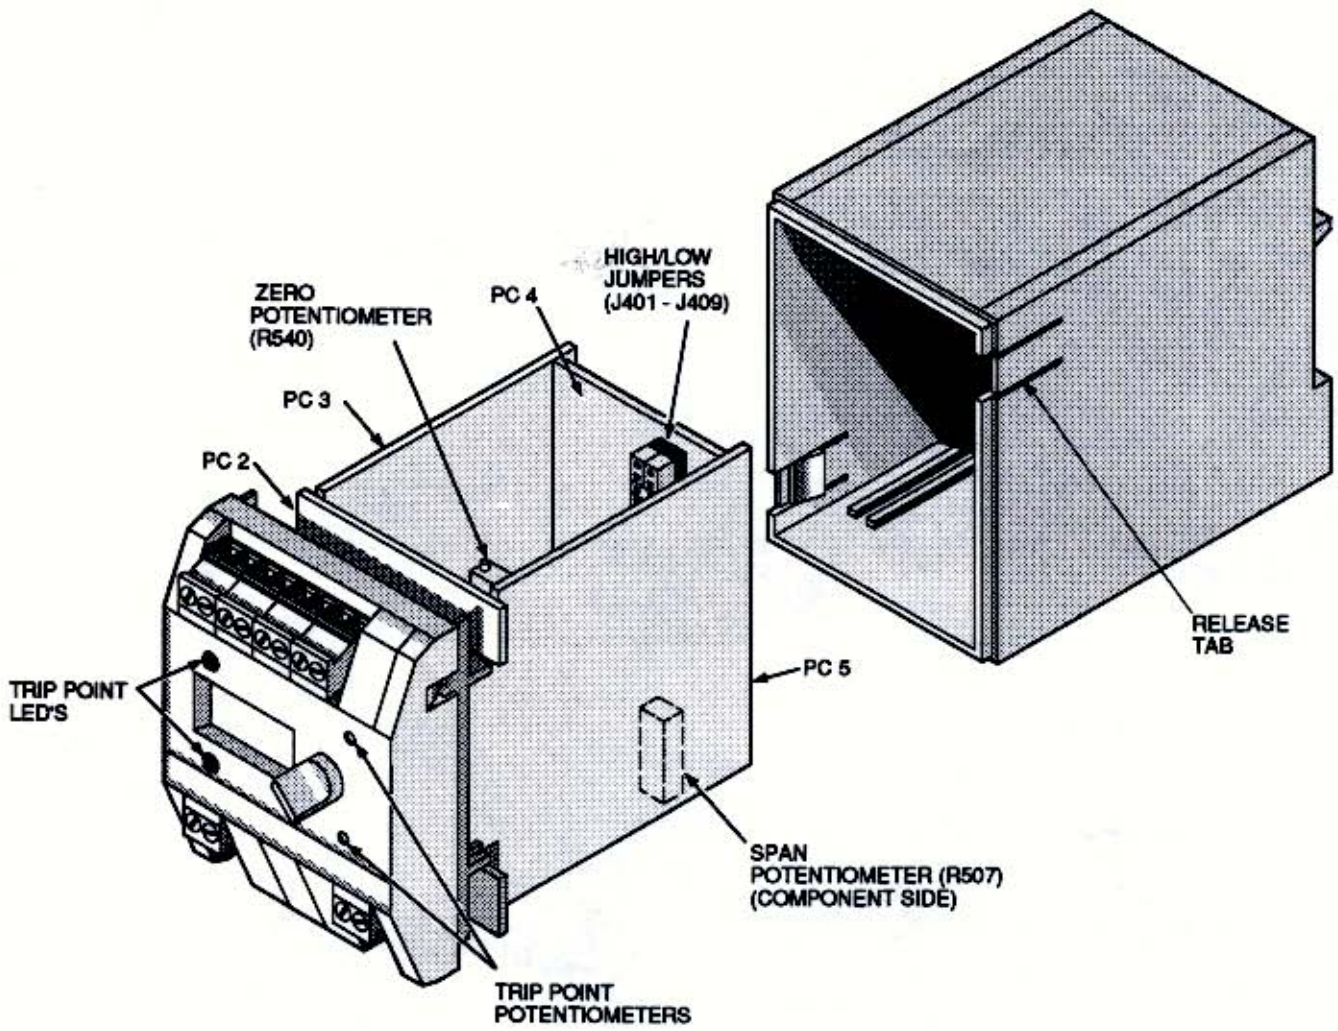

Figure 2. Disassembly Diagram
To adjust these potentiometers, partial disassembly of the unit is required. To access the potentiometers, use a screwdriver to release the tabs on both sides of the unit and pull the front panel straight out. Attached to the inside of the front panel are five printed circuit (PC) boards. The Zero and Span potentiometers are located on PC5, one of the side PC boards. See figure 2.
Deadband. For units with the -AD (adjustable deadband) option, adjustment potentiometers are provided inside the unit. R424 is for single alarm units, and R424 and R425 are for dual alarm units. To adjust these potentiometers, partial disassembly of the unit is required. To access the potentiometers, use a screwdriver to release the tabs on both sides of the unit and pull the front panel straight out. Attached to the inside of the front panel are five PC boards. The deadband potentiometers are located on PC4, the rear printed circuit board. See figures 2 and 3.
Solderless jumpers are used for high/low alarm settings. Refer to table 2. To verify or change jumper settings in the field, partial disassembly of the unit is required. To access the jumpers, use a screwdriver to release the tabs on the sides of the housing and slide the front panel out. Attached to the inside of the front panel are five PC boards. The jumpers are located on the rear printed circuit board, PC4. See figures 2 and 3.
To calibrate an MDA, the unit must be partially disassembled. Refer to the Adjustments paragraph and see figures 2 and 3.
6. If the display does not read 00.0 percent, adjust the Zero potentiometer (R540) located on PC5 for 00.0 percent. See figure 2.
9. If the display does not read 100.0 percent, adjust the Span potentiometer (R507) located on PC5 for 100.0 percent. See figure 2.